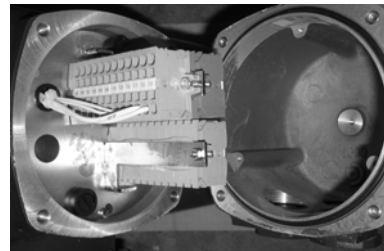

Figure 8.2.2
B) Electric actuator with **Terminals connection** (Figure 8.2.2)